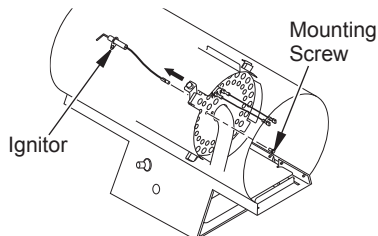

Figure 14 - Removing Ignitor Mounting Screw and Ignitor
3. Remove ignitor mounting screw from rear head using nut-driver or standard screwdriver (see Figure 14).
2. No spark at ignitor. To test for spark, follow step 8 under Ignitor , page 8. If you see spark at ignitor, have heater serviced by qualified service person. If no spark seen: A) Loose or disconnected ignitor wire B) Wrong spark gap C) Piezo ignitor loose D) Bad ignitor electrode	2. A) Check ignitor wire. Tighten or reattach loose ignitor wire. See Figure 14, page 8 for ignitor wire location B) Set gap between ignitor electrode and target plate to 0.17" (0.43 cm) C) Tighten nut holding piezo ignitor to base of heater D) Replace ignitor electrode. See Ignitor , page 8